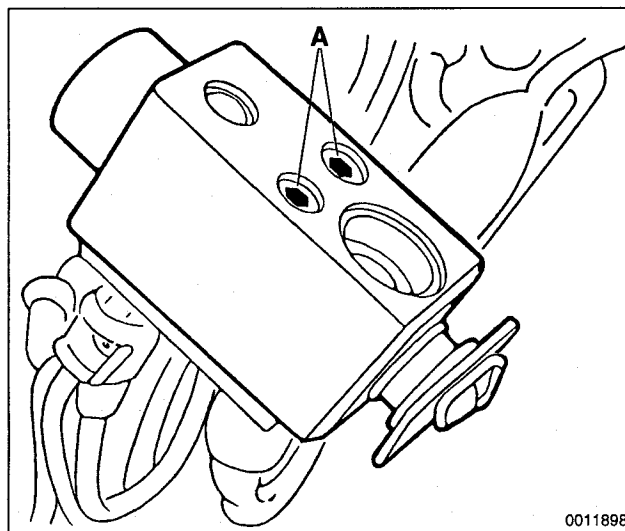

Fig. 48. Expansion valve mounting screws (A).
7. Remove screws from top of expansion valve and remove expansion valve from evaporator. See Fig. 48.